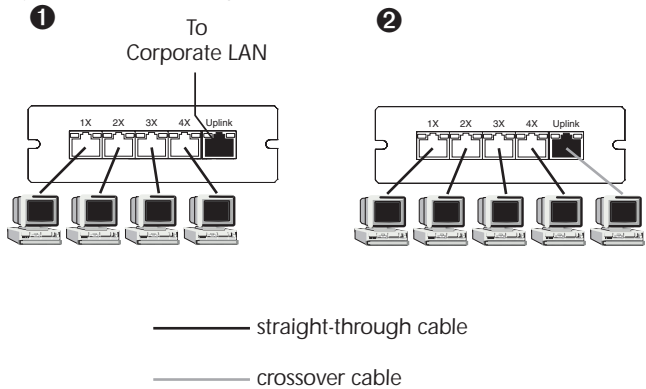

Figure 2: Dual Use of the Uplink Port
The Uplink port is normally used in either of the following ways, as shown in Figure 2.
- 6 Using straight-through UTP cables, connect the Station ports (1X–4X, in any order) to each workstation's 10Base-T port or to the Uplink port of a hub to be connected in cascade. (See Figure 2 on page 4.)
- Use a straight-through cable to connect to a Station port. (See Figure 2 on page 4.)
- Use a crossover cable. (See Figure 2 on page 4.)